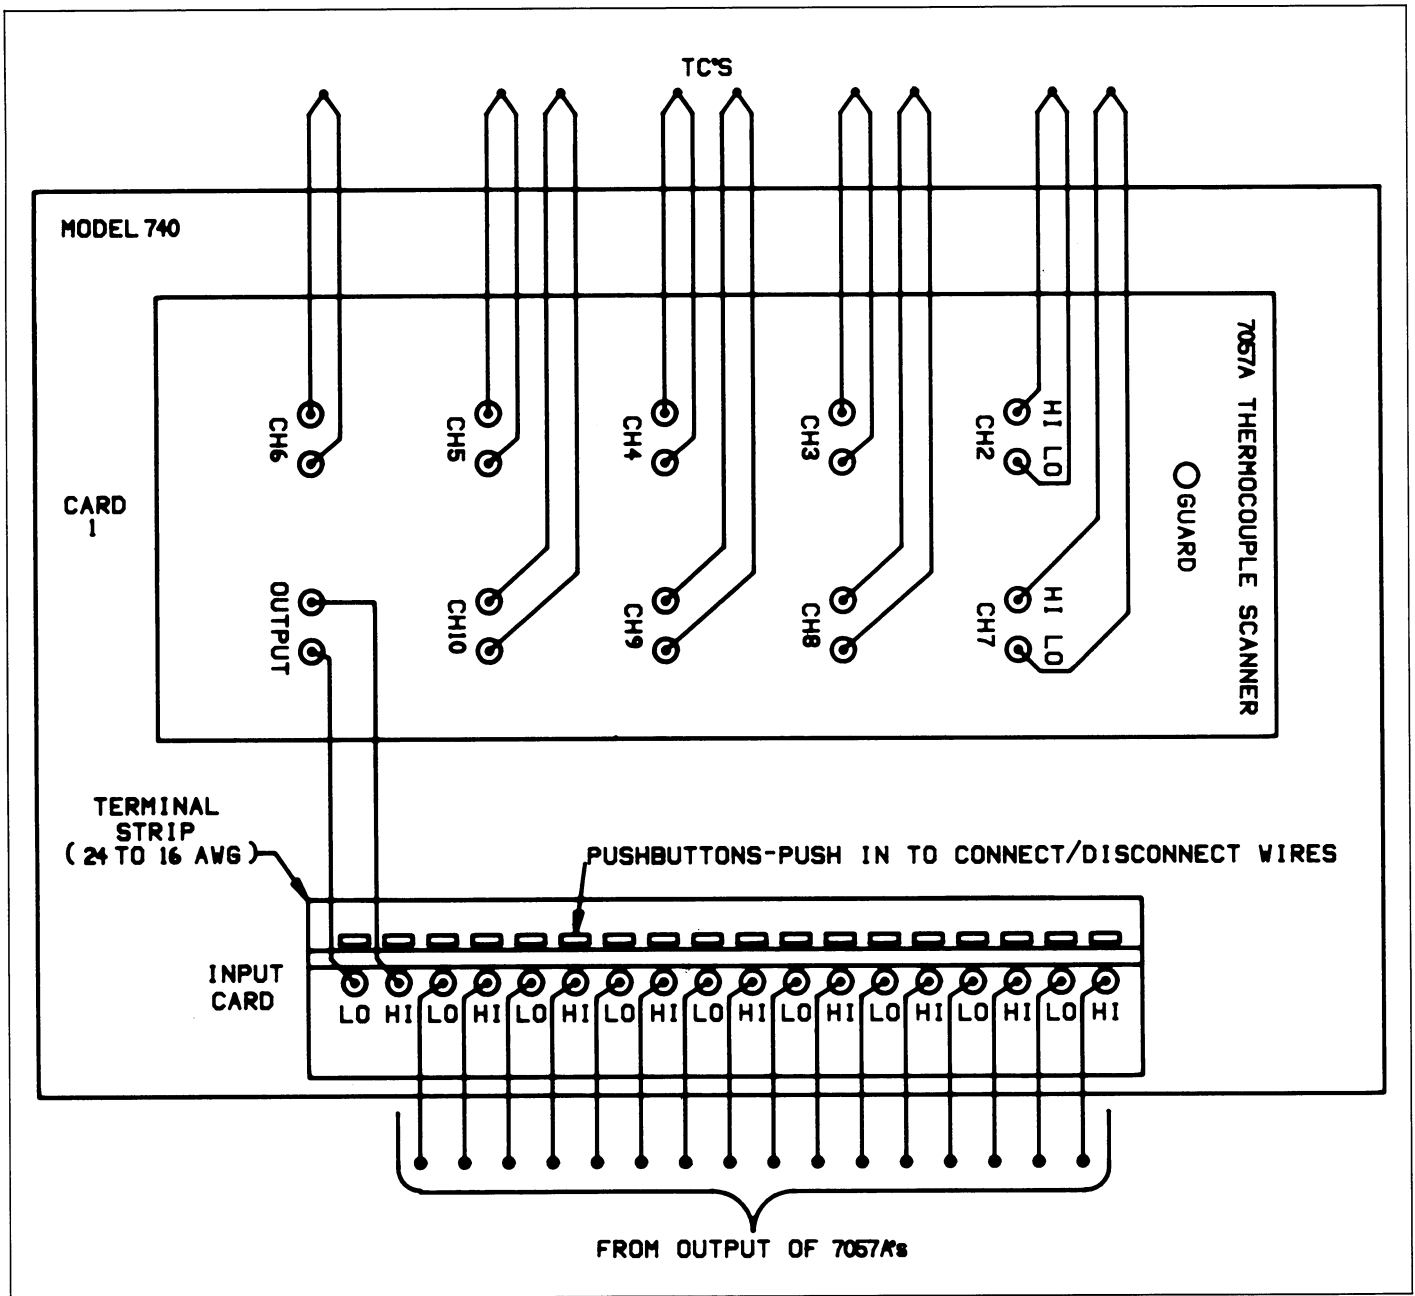

Figure 2-6. Setup Using Up to Nine Scanner Cards
4. Connect one to nine thermocouples (TCs) to the channels of the scanner card as shown in Figure 2-6. Connect the positive wire of each thermocouple to the HI terminal and the negative wire (red) to the LO terminal.
10. Connect the scanner OUTPUT wires to any pair of terminals on the input card terminal strip (see Figure 2-6). Be sure to observe the proper polarity.
7. Observing the proper polarity, connect the OUTPUT of each scanner card to any pair of terminals on the terminal strip (see Figure 2-6).